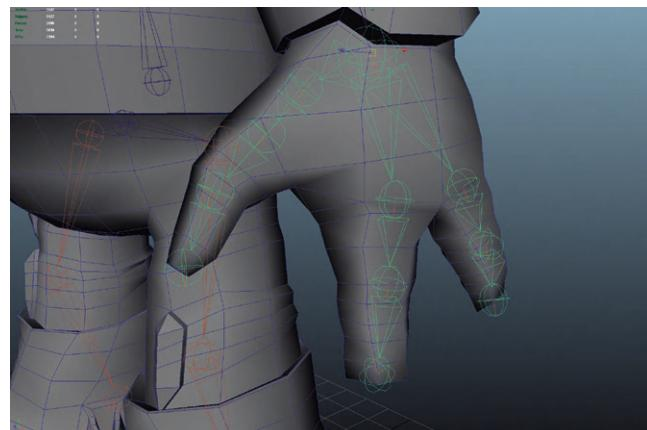

FIG 8.17 Complete hand joints.
Step 23: Create the other finger joint chains by building joints off of the L_Wrist joint. Remember to build a chain off an existing joint, just activate the Joint Tool and make sure the first click is on an extant joint (Fig. 8.17).